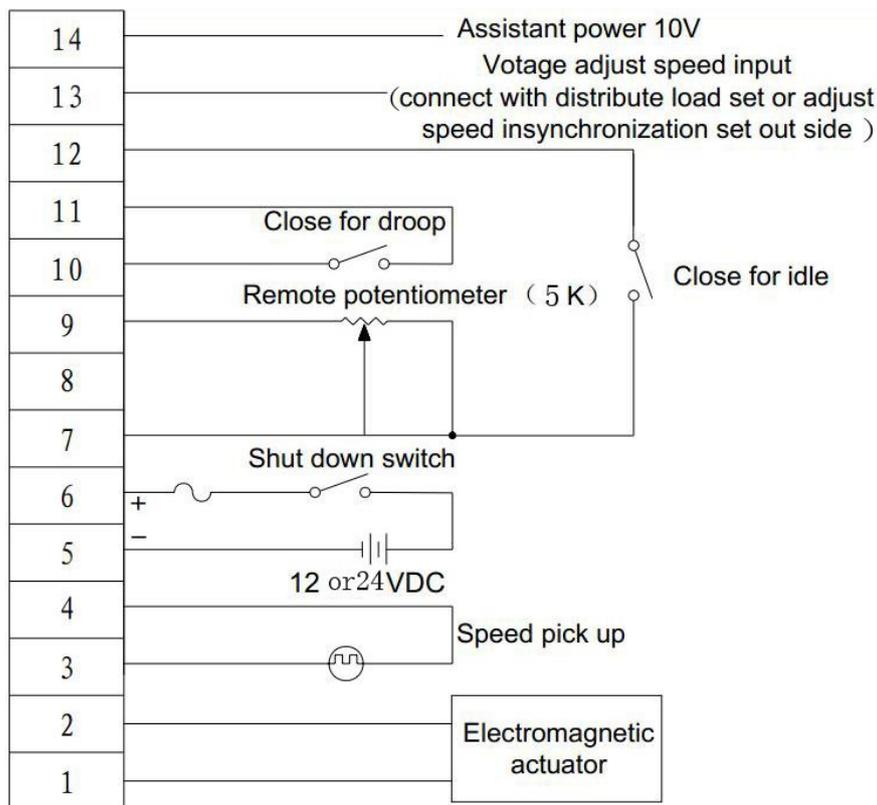

Figure 2.1.3.1 Connection diagram of the C2002 speed control unit for normal generator set
2.1.3.1 C2002 speed control unit's connection diagram for normal generator set refers to figure 2.1.3.1